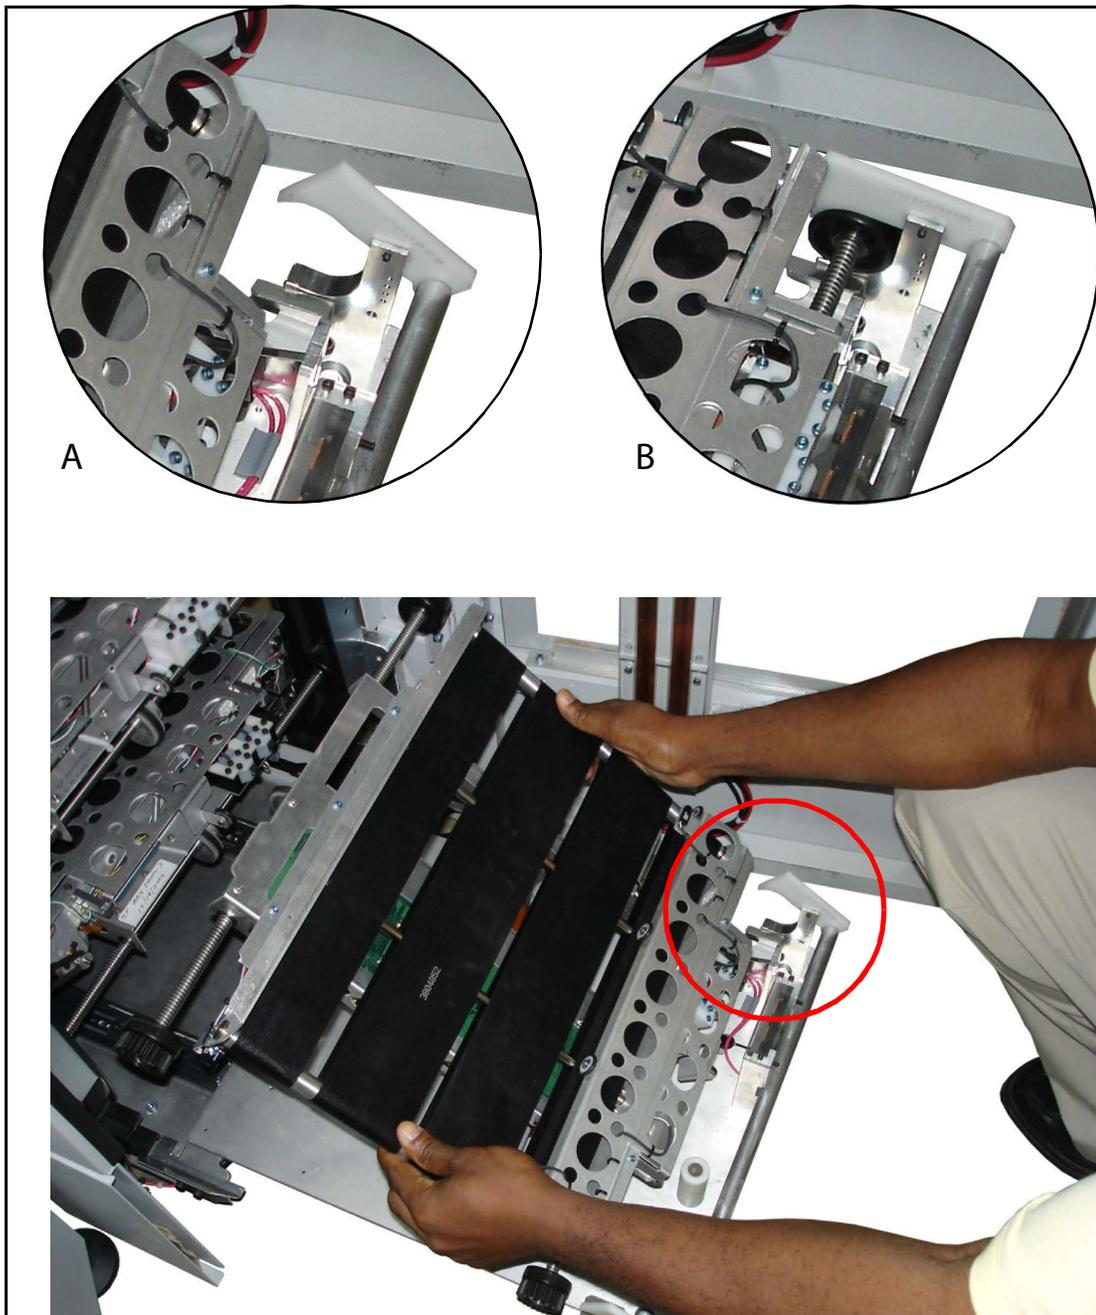

Figure 74: Car loader assembly with iBOT
- Put the iBOT into place and align it so that the back wheels are beneath the left and right wheel clamps (Figure 74, detail “A”).
- Lift the handle so that the clamps fit down over the iBOT's rear wheels (Figure 74, detail “B”).